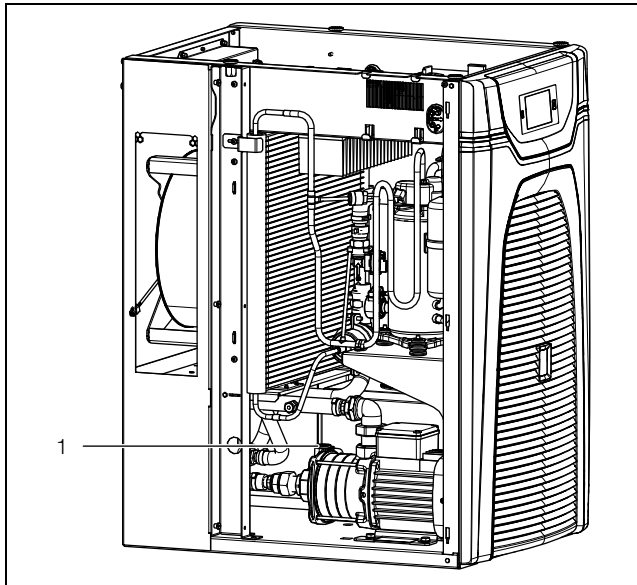

Fig. 42: Bleeding the cooling medium pump
- Bleed the cooling medium pump (with the system at a standstill) by loosening the vent screw (fig. 42, item 1). As soon as cooling medium escapes from the vent screw, bleeding of the pump is complete.